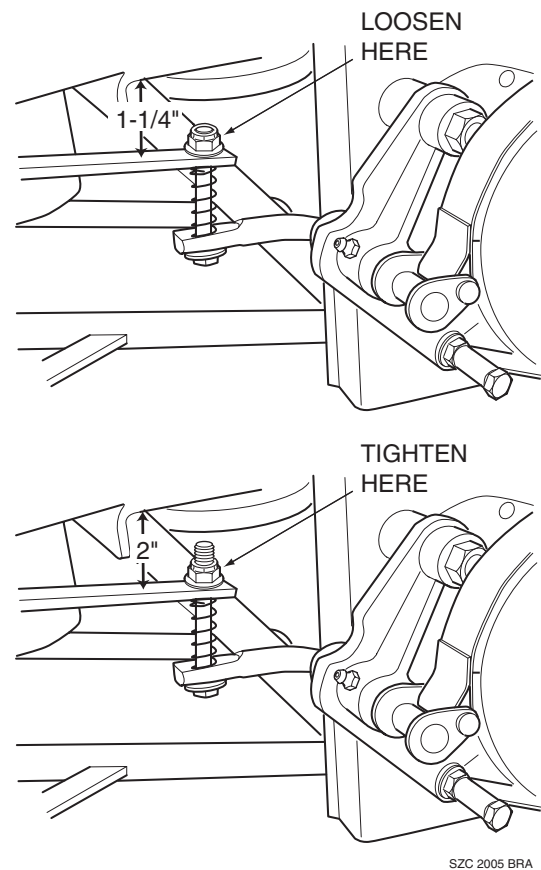

Figure 6-2. Brake Rod Adjustment
2. Loosen the nut on the top of the actuator bar until it is flush with the end of the bolt. (See Figure 6-2, top view).